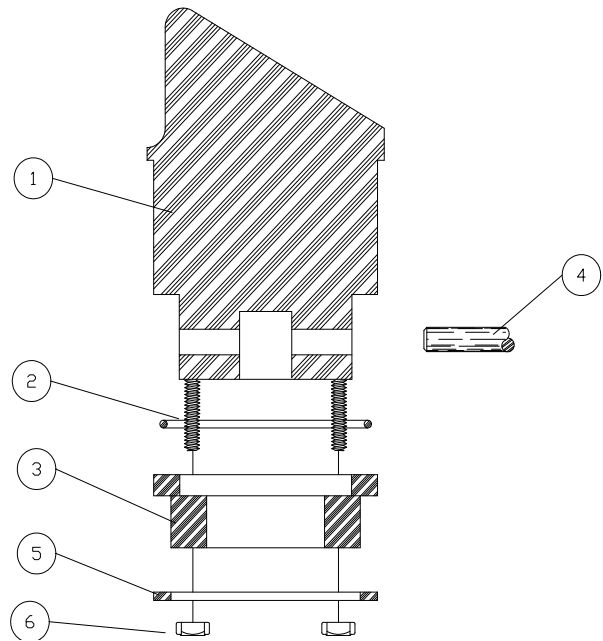

FIGURE 4
TO DISMANTLE PISTON IN FIGURE 4, REMOVE THE SIX HEX NUTS (6), SLIP RING (5) DOWN AND OFF, THEN WITH SLIGHT PRESSURE, PUSH PISTON RING (3) OFF PISTON AND RUBBER "O" RING (2). WHEN REASSEMBLING THE PISTON, A VERY IMPORTANT STEP IS TO MAKE SURE THE SIX NUTS (6) ARE NOT OVERLY TIGHTENED, MERELY SNUG. AS THE RING WEARS OVER A PERIOD OF TIME, CONTINUE TO SNUG UP THE SIX NUTS. THIS PROCEDURE WILL NOT ONLY PROVIDE LONG LIFE TO THE PISTON RING BUT WILL MAINTAIN FULL VACUUM.